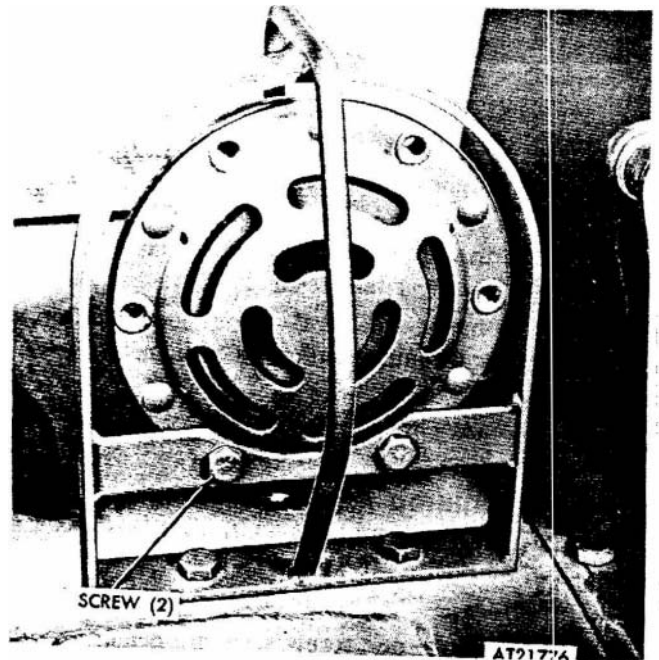

Figure 2-124. Horn, removal and installation.
(2) Remove horn from brush guard by removing two screws and washers (fig 2-124).